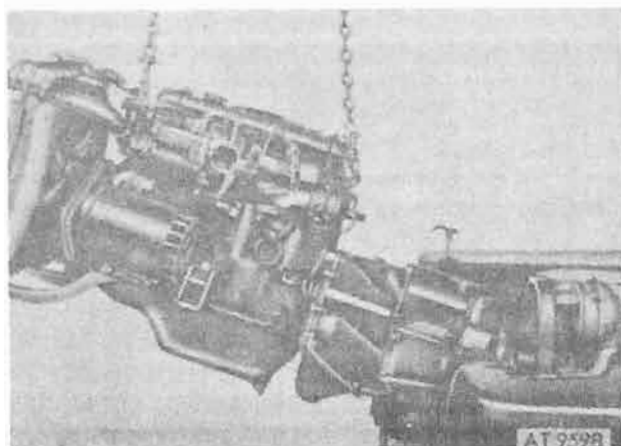

Figure 4-40. Removal of power plant assembly.
(33) Continue lifting power plant assembly and push vehicle rearward (fig. 4-40).
(34) Place power plant assembly on supports for disassembly of transmission and flywheel housing.